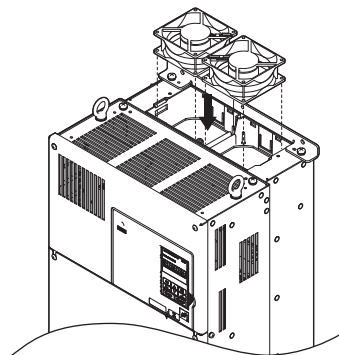

Figure 7.15 Installing the Cooling Fan: 4A0075, 4A0091
1. Install the replacement fan into the drive. Align the pins as shown in Figure 7.15.
3. Angle the fan cover as shown in Figure 7.15 and insert the connector tabs into the corresponding holes on the drive.